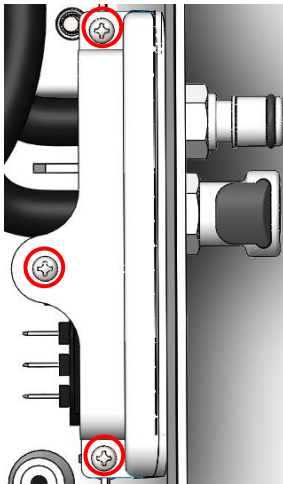

Fig: 16
2. Using a manual screwdriver, carefully remove the three screws from the side panel. (Fig: 16)